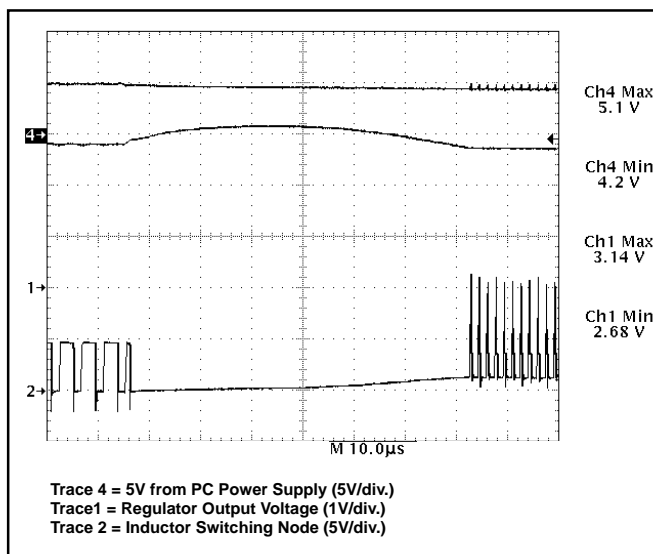

Figure 12: CS5161/5161H OVP response to an input-to-output short circuit by immediately providing 0% duty cycle, crow-barring the input voltage to ground.
Overvoltage protection (OVP) is provided as result of the normal operation of the V^2 ™ control topology and requires no additional external components. The control loop responds to an overvoltage condition within 100ns, causing the top MOSFET to shut off, disconnecting the regulator from its input voltage. The bottom MOSFET is then activated, resulting in a “crowbar” action to clamp the output voltage and prevent damage to the load (see Figures 12 and 13). The regulator will remain in this state until the overvoltage condition ceases or the input voltage is pulled low. The bottom FET and board trace must be properly designed to implement the OVP function.
The ramp waveform is generated through a small RC filter that provides the proper voltage ramp at the beginning of each on-time cycle. The resistors R1 and R2 in the circuit of Figure 12 form a voltage divider from the GATE(L) output, superimposing a small artificial ramp on the output of the error amplifier. It is important that the series combination R1/R2 is high enough in resistance not to load down and negatively affect the slew rate on the GATE(L) pin.